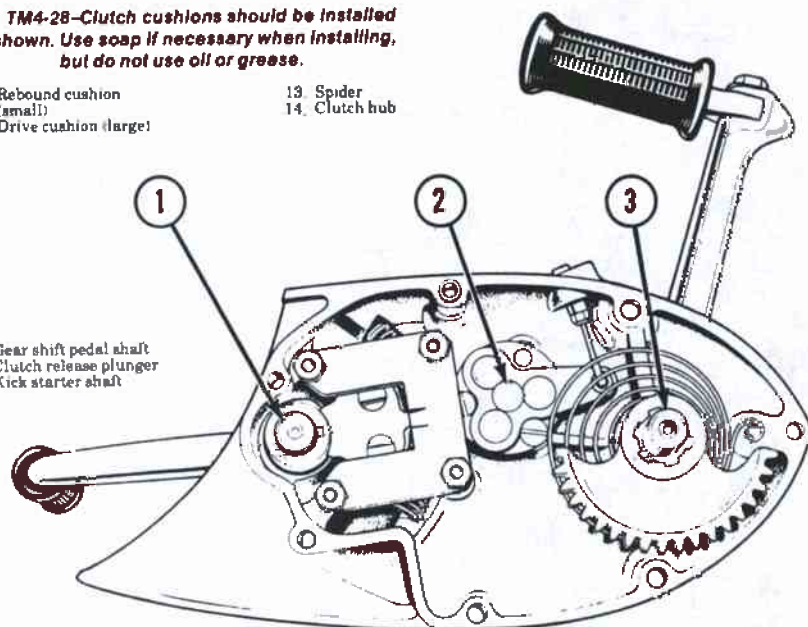
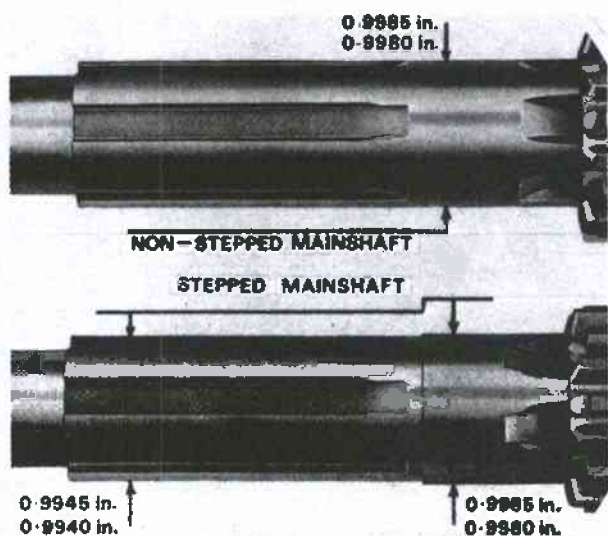

Fig. TM4-29—View of gear box outer cover. Refer to Fig. TM4-30 for exploded view of the operating assemblies.
Fig. TM4-45—Views of four speed transmission input shafts (mainshafts) showing differences between non-stepped and stepped types.
**FOUR SPEED GEAR BOX.** To remove the gear box outer cover, remove the exhaust pipe and foot rest from the right side. Loosen clutch cable adjuster and disconnect cable from the actuating spoke. Drain gear box and engage fourth gear. Remove the two nuts and four screws attaching outer cover, then remove the outer cover. Clutch operating cam, kick starter and gear change ratchet (Fig. TM4-29), are removed with the outer cover.
When assembling the gear box outer cover, refer to Figs. TM4-29 and TM4-30. The kick starter return spring should be installed with inner end of spring over the spline shown at (L—Fig. TM4-37). Refer to appropriate paragraphs when assembling the clutch and the alternator assemblies. The table on the following page lists details of various transmission parts used in four speed transmission. Refer to Figs. TM4-45, TM4-46, TM4-47, TM4-48 and TM4-49 for explanation of stepped and non-stepped (parallel) shafts; shaved and non-shaft gears;